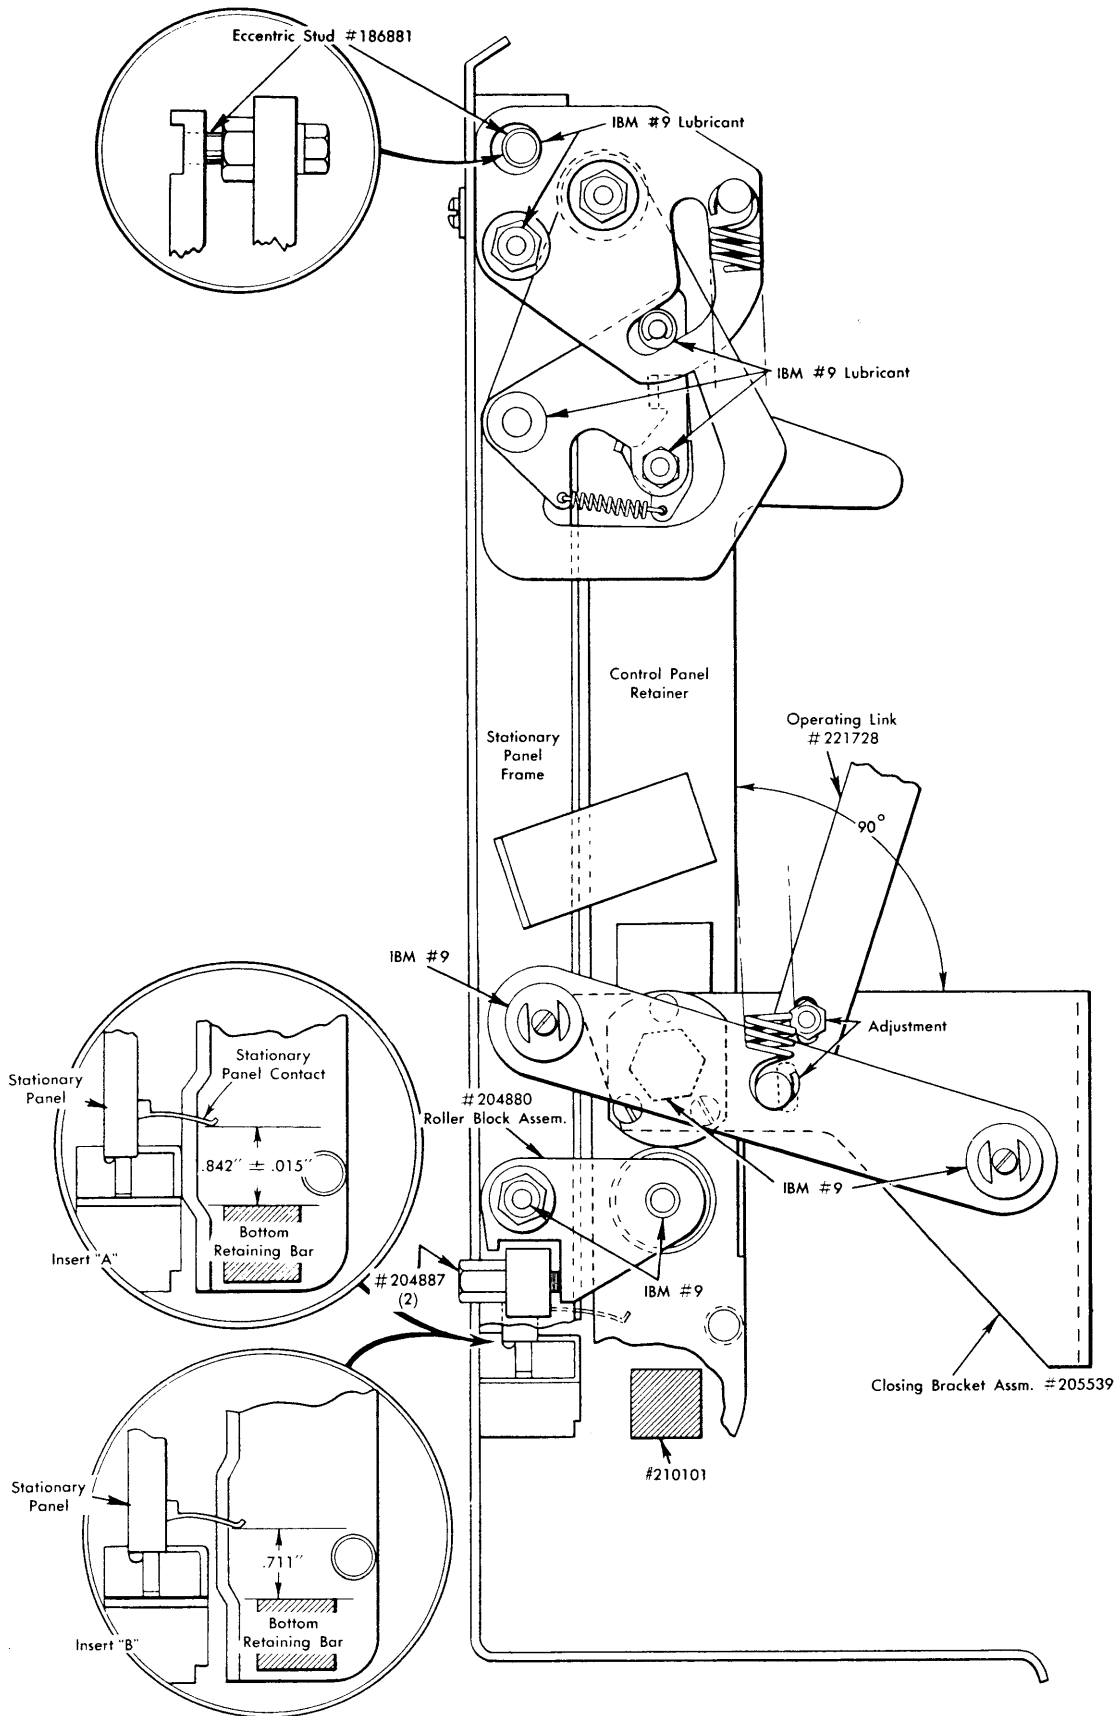

Figure 51. Control Panel Closure Mechanism
### ADJUSTMENT (FIGURE 51)
4. Lubricate control panel pivot points with IBM #9 oil and camming surfaces with a light film of IBM #17 grease (See Figure 51).